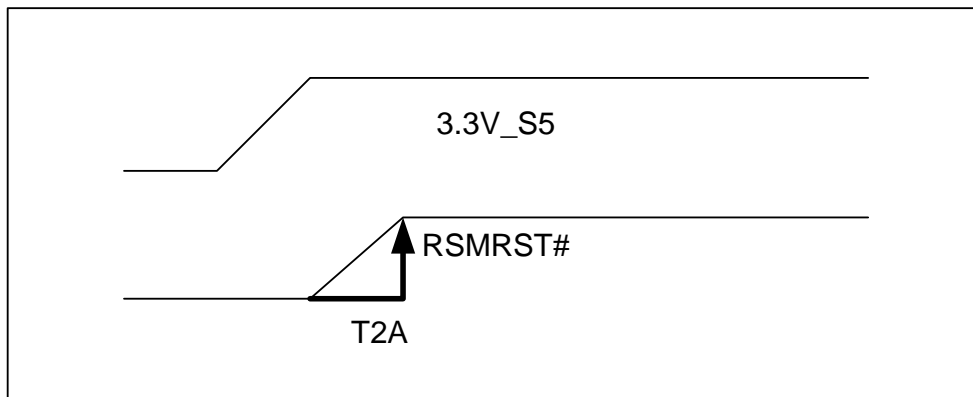

Figure 25. Measurement for RSMRST# Timing (T2A)
9. When measuring the RSMRST# timing T2A, the loading of the motherboard PCB trace may cause a slow rise time, which should be taken in account. See Figure 25 below.